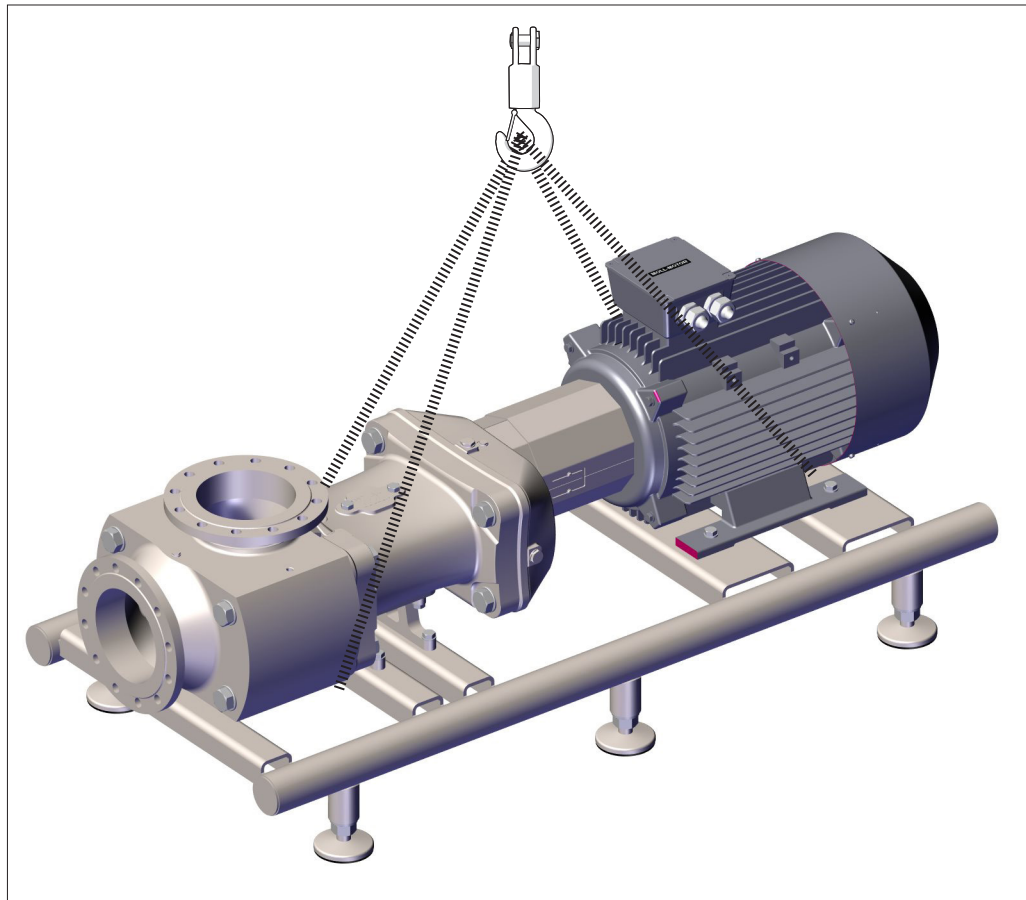

Fig. 2: Suspension possibility for the transport of the WANGEN Twin NG
- *Alternative: Lifting the pump with base frame and drive - as shown in Fig. 2 - with round slings.*